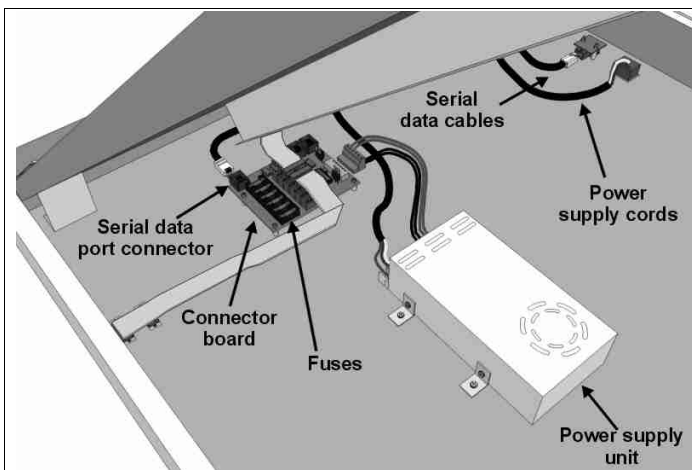
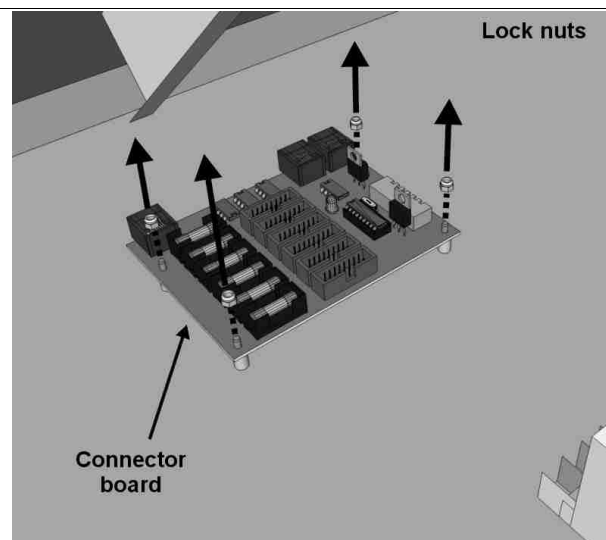

Fig. 18: Replacing a connector board
Fig. 19: Installing a connector board
- connect the Console directly to the serial data connector of the connector board (Fig. 18) by means of a properly functioning serial cable. Supply power to the statistics panel;
- locate the connector board inside the top module of the statistics panel (Fig. 18). Identify the fuse (Fig. 19) near the connector where the 16-way flat cable from the previous control board has been inserted; replace the fuse if it has ruptured, otherwise replace the connector board (chapter 7.4).
2. Identify the connector board (Fig. 18); keeping in mind their original positions, remove all the connectors from inside the board.
3. With a 5.5 mm wrench unscrew the 4 end nuts from the connector board (Fig. 19) and remove the board from its casing. Insert the new connector board.